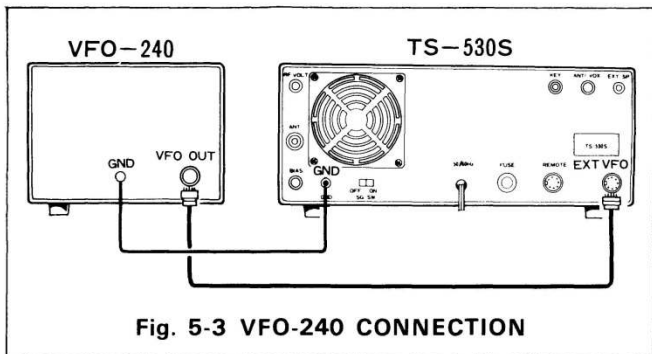

Fig. 5-3 VFO-240 CONNECTION
■ **VFO-240 CONNECTION (Fig. 5-3)**
Connect the VFO-240 as shown in Fig. 5-3.